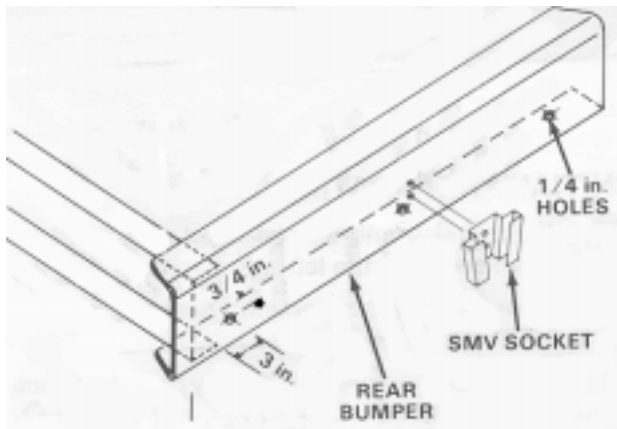

Figure 4
1. Using dimensions shown in figure 4, locate, mark and drill (3) 1/4" dia. holes in the lower flange of rear bumper.
1. Position SMV socket in the center of rear bumper as shown in figure 4.
2. Using the socket as a template, locate, mark and drill (2) 5/16" dia. holes in center of rear bumper.
3. Mount SMV socket to bumper with (2) 5/16 x 1-1/4" lg. carriage bolts and 5/16 nylon lock nuts.